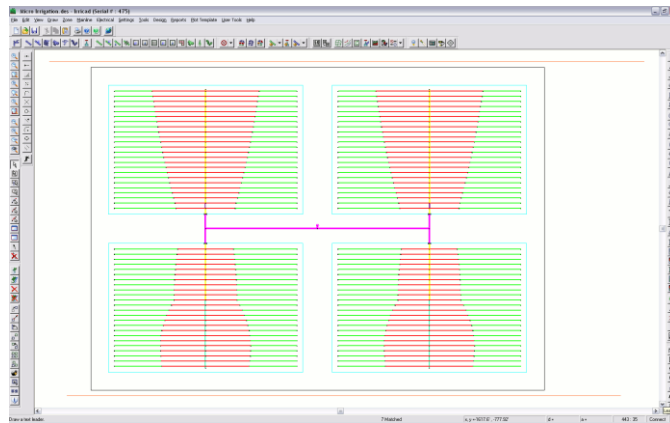

Figure 4-58
29. Select *Design|Zone Design|LP Design*. This method of computer sizing takes into account the maximum allowable velocities (in *Design|Design Parameters|Hydraulic Parameters*) and the pressure requirements of the sprinklers. Select this option to have IRRICAD size the laterals and submains for the zones. You will get some warning messages during LP Design indicating that some of the blocks have nozzle pressures outside the specified operating range. You should have results similar to Figure 4-58.